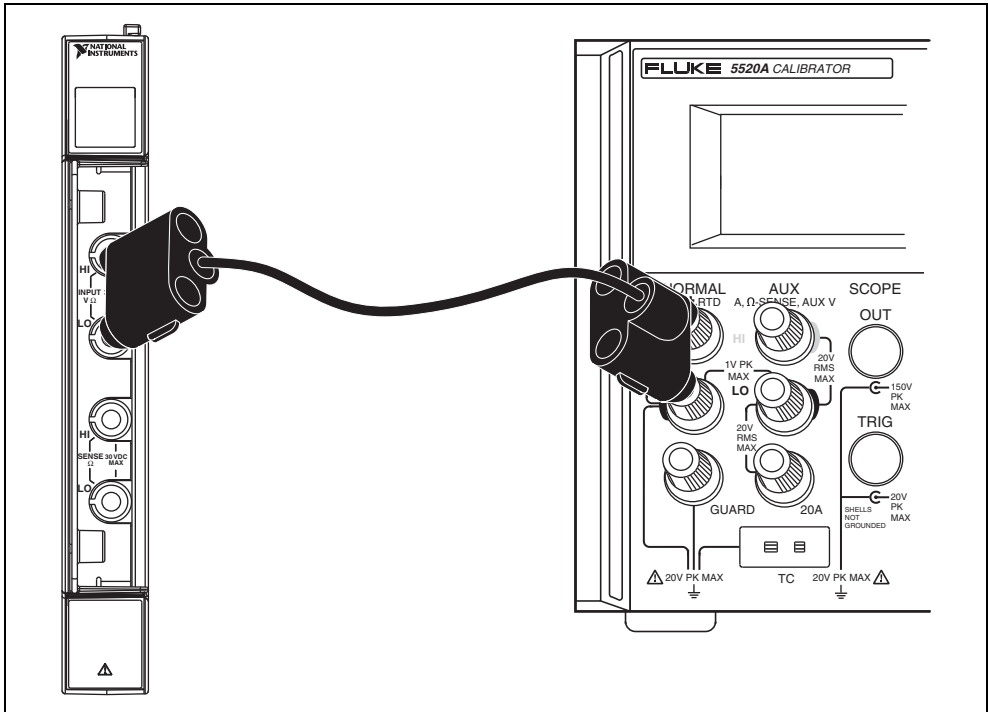

Figure 1. CAL-4353 to Fluke 5520A Calibrator Connections
1. Using banana-jack terminated copper wire, connect the positive and negative terminals of the voltage calibrator to the terminals labeled INPUT V Ω HI and LO of the CAL-4353 while referring to Figure 1.